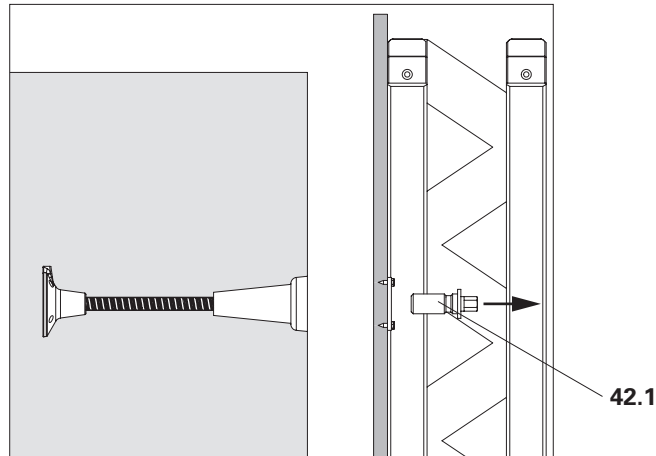

Fig. D3.01
1. Release Positioning Screws M30 (**42.1**) and remove. (Fig. D3.01)